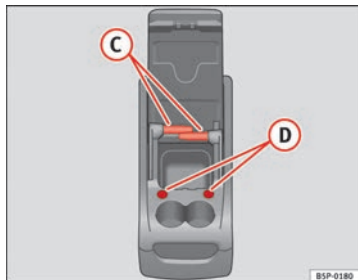

Fig. 115 Mobile storage compartment. Functions
To use the table (C) ⇒ fig. 115, it must be removed from its compartment in the side of the mobile storage compartment and fitted into slot (D) ⇒ fig. 115 on the front section of the mobile storage compartment.